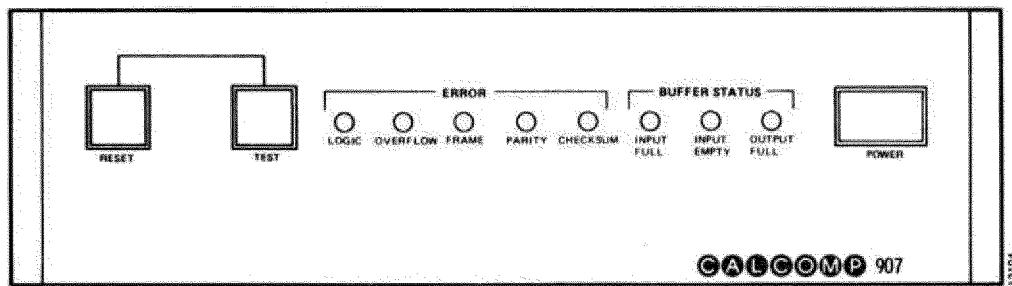
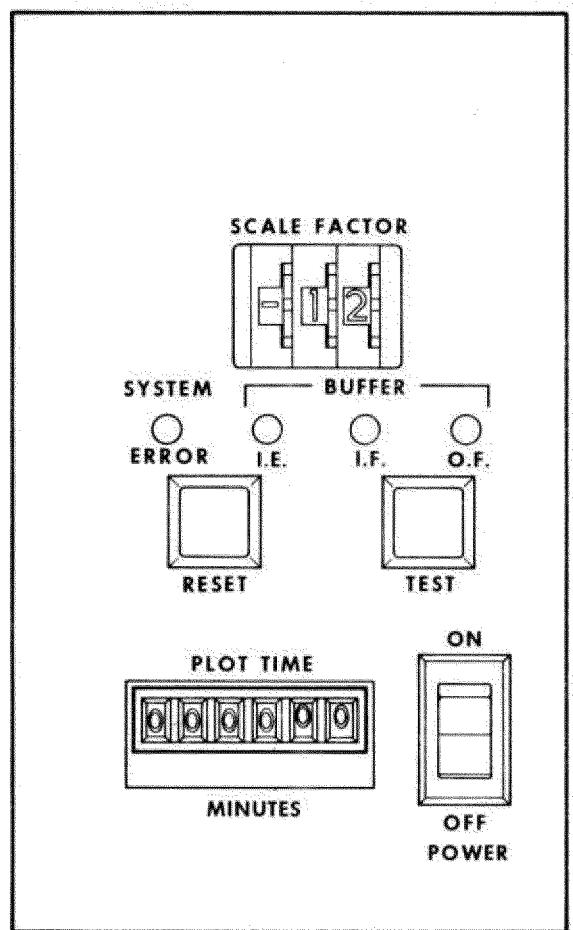

Figure 2. Operating Controls and Indicators
Figure 3. Typical Plotter Control Panel
The operating controls and indicators are shown in Figure 2. Table 1 contains descriptions of the controls and indicators. A typical plotter control panel containing OPC controls and indicators is shown in Figure 3.
*See Figure 3.